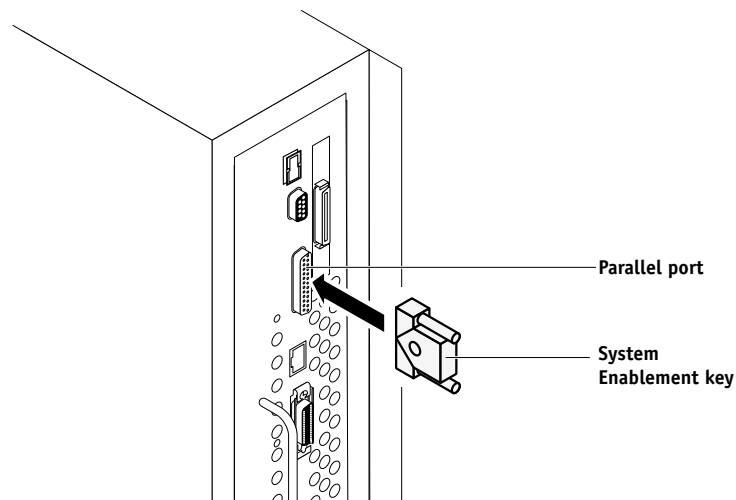

FIGURE 2-5 Installing the System Enablement key
2. **With the system powered off, install the System Enablement key directly to the parallel port on the E-710 (see Figure 2-5).**